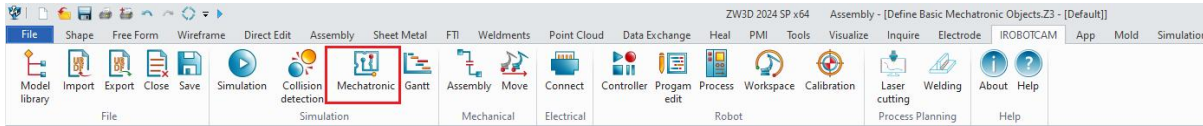

Figure 5-5: Mechatronic
- Click on the "IROBOTCAM" to enter the mechatronic interface. (Figure 5-5)